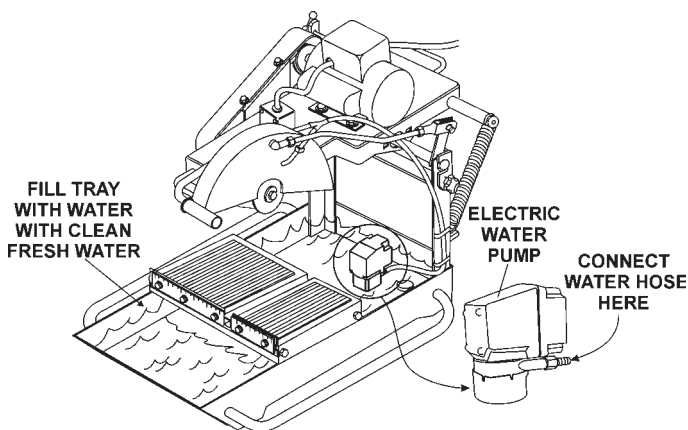

Figure 5. Water Tray/Water Pump
3. Attach the clear plastic water hose (Figure 5) coming from the blade guard to the water pump.